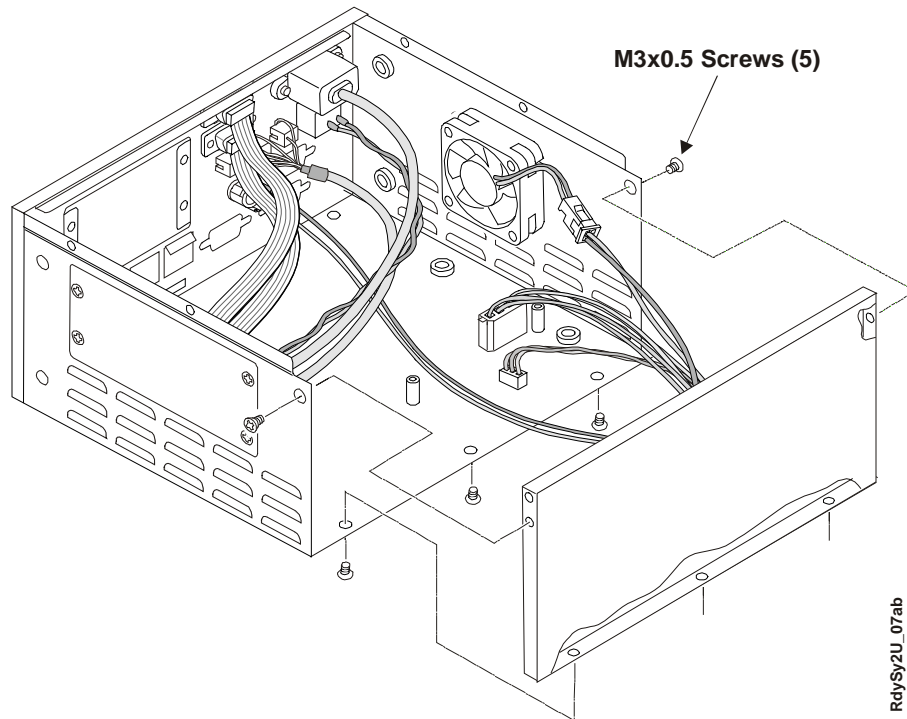

Figure 2-4. Removing ReadySystem Rear Panel
5. Locate the five screws securing the rear panel to the enclosure. See Figure 2-4.
9. Disconnect all cables from the ReadyBoard, at the ReadyBoard (including Enclosure Fan and DC IN from +5V Regulator board) before continuing. See Figures 2-4, 2-5 and 2-7.